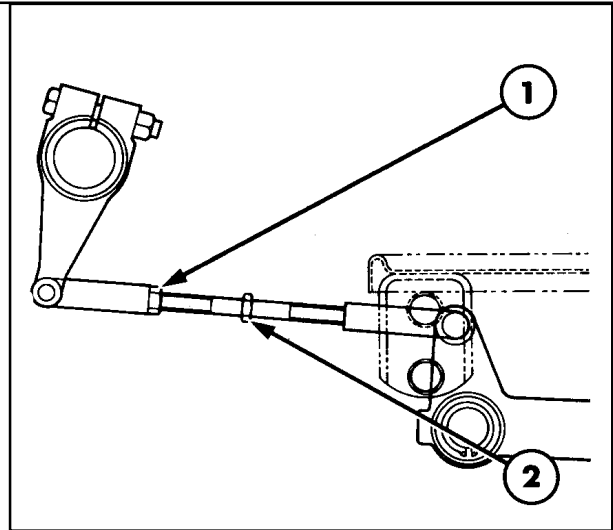

Figure 7
2. Loosen the lock nut on the left and right hand brake linkage. Figure 7.